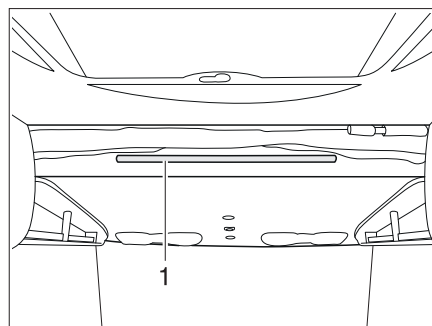

Fig. 162 Electrical pull-down bed
- Hook the access ladder to the pull-down bed by fitting both brackets into the holding bar (Fig. 162,1).